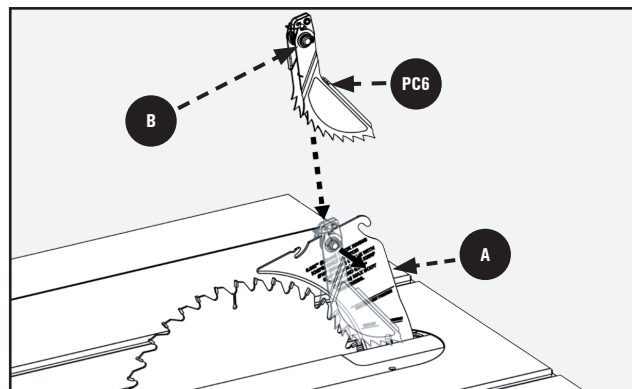

FIGURE 13
1. Refer to Figure 13 and locate the Anti-Kickback Pawls Mounting Slot in the middle of the top edge of the Riving Knife.